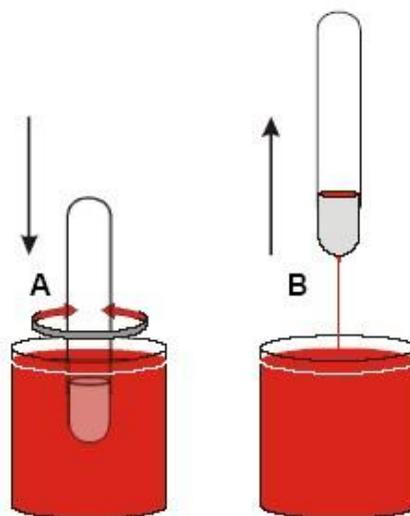

Figure 1
1. Immerse the cup completely into the liquid and twist several times to dislodge any bubbles which may be clinging to the internal surface of the cup (Figure 1 A).
4. Lift the cup vertically out of the liquid (Figure 1 B) and start the stopwatch the moment the top of the cup breaks the surface of the liquid.